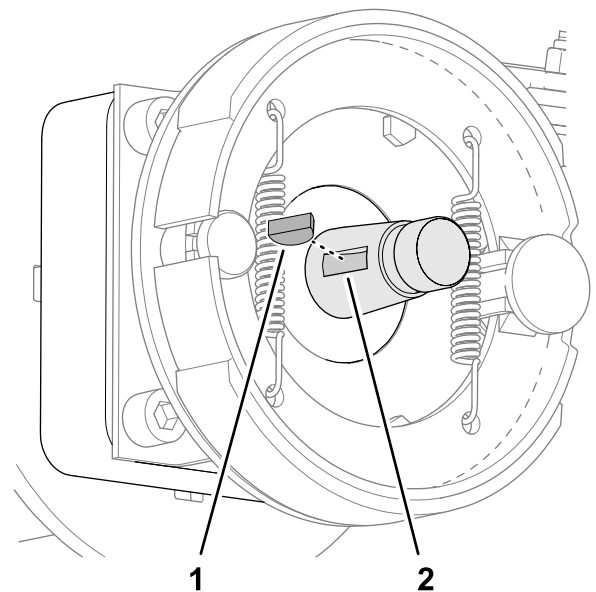

Figure 83
2. Insert the woodruff key into the groove of the wheel-motor shaft (Figure 83).